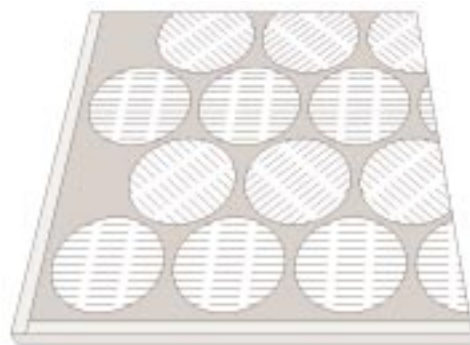

FIGURE 3
The use of solar energy to provide a portion of the home's space or water heating is a good option in many geographic areas. Passive systems use building orientation and construction materials to enhance natural processes to collect, store, and distribute heat. Active systems employ pumps and/or fans. Hybrid systems use small pumps or fans to enhance the performance of a passive system. Photovoltaic (PV) systems convert solar energy directly to DC power which is inverted to AC power for home use. Unfortunately, the market advancement of this technology is suffering from the costly and limited production of the ultra-pure silicon wafers which are the main component of the PV system (Fig. 3).